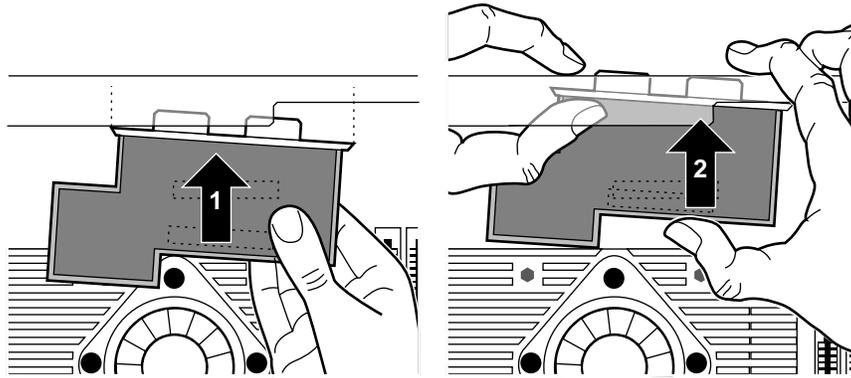

Figure 1-15 Aligning the Option Board
3. As shown in Figure 1-15, push the left side of the board (1), then the right (2), toward the rear of the system module so that the board's I/O connector goes through the slot and the connector underneath is aligned over the socket on the system board.